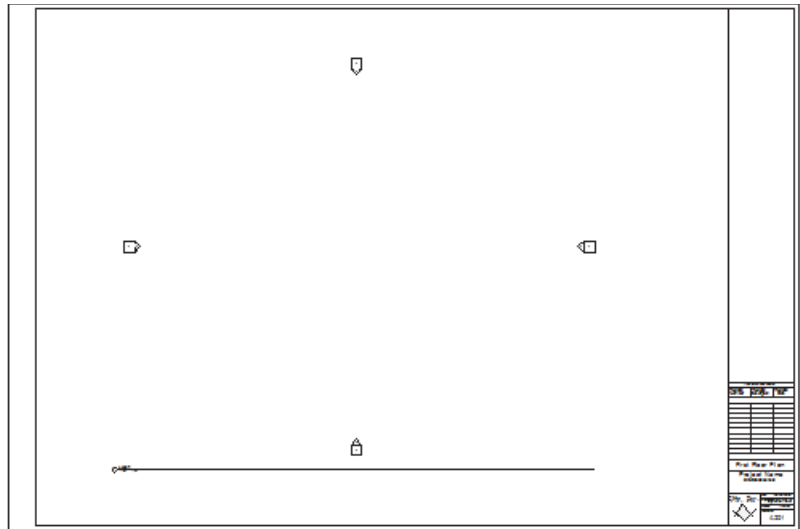

Figure 1–58
- Open this sheet view. Drag the associated **Level 1** floor plan view onto the sheet, as shown in Figure 1–58.